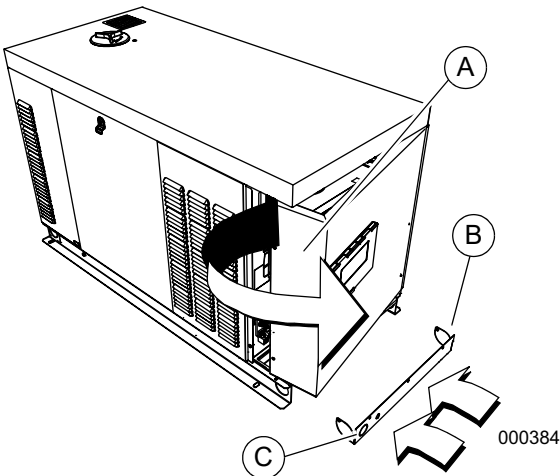

Figure 5-2. Remove Rear Panel and Stub-Up Cover
- 1. See Figure 5-2. Remove six screws with nylon washers to release rear panel (A) from enclosure. For best results, rotate left side of panel outward away from enclosure before disengaging right side.
NOTE: See Figure 5-2. Remove knockout plug and route accessory wiring to customer supplied weather-proof junction box. Verify wires do not contact moving or vibrating engine parts, as abraded wires can result in electrical problems.